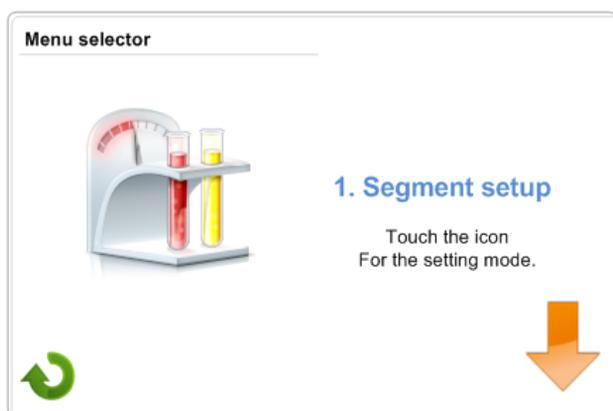

Figure 3: Segment setup
a. Touch "MENU" icon located bottom left corner on the Touch Screen, then "Menu selector" screen will be displayed as Figure 3.